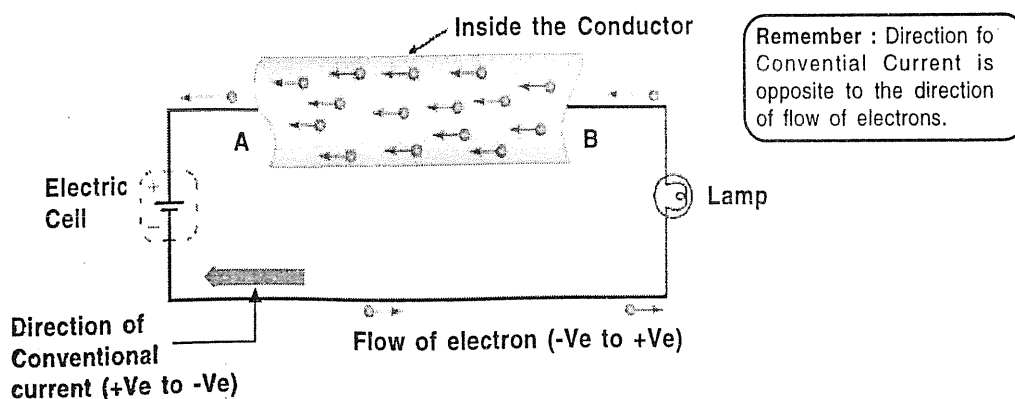

FIG. 1.4
- Fig. 1.4 shows that the flow of electrons in the wire is from B to A. i.e. From negative terminal of the cell to the positive terminal through external circuit.